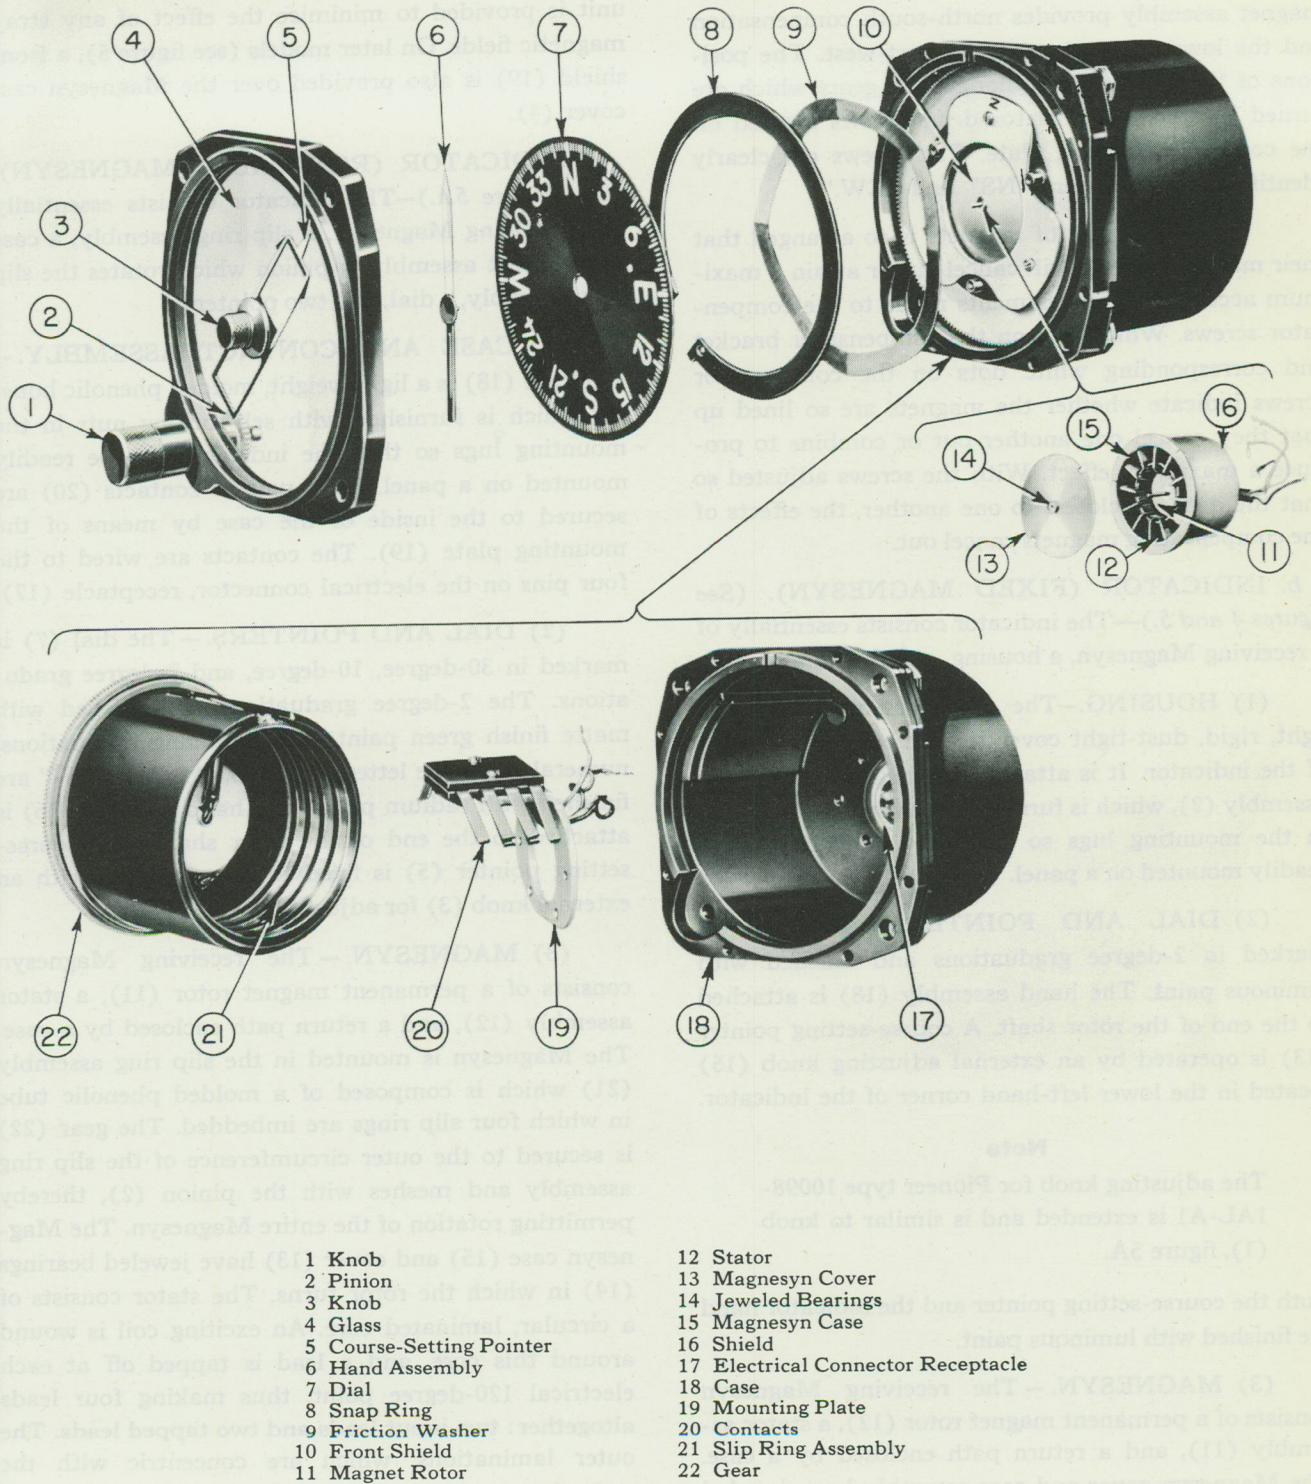

Figure 5A—Three-Quarter Internal View—Indicator—Navy Stock No. R88-I-803
The adjusting knob for Pioneer type 10098-1AL-A1 is extended and is similar to knob (1), figure 5A.
c. INDICATOR (ROTATABLE MAGNESYN). (See Figure 5A.)—The indicator consists essentially of a receiving Magnesyn, a slip ring assembly, a case and contact assembly, a pinion which rotates the slip ring assembly, a dial, and two pointers.
(1) CASE AND CONTACT ASSEMBLY.—The case (18) is a light weight, molded phenolic housing which is furnished with self-locking nuts in the mounting lugs so that the indicator can be readily mounted on a panel. Four pair of contacts (20) are secured to the inside of the case by means of the mounting plate (19). The contacts are wired to the four pins on the electrical connector, receptacle (17).
(2) DIAL AND POINTERS.—The dial (7) is marked in 30-degree, 10-degree, and 2-degree graduations. The 2-degree graduations are finished with matte finish green paint. All remaining graduations, numerals, and the letters "N," "E," "S," and "W" are finished with radium paint. The hand assembly (6) is attached to the end of the rotor shaft. The course-setting pointer (5) is fixed to the glass (4) with an external knob (3) for adjustment.
(3) MAGNESYN.—The receiving Magnesyn consists of a permanent magnet rotor (11), a stator assembly (12), and a return path enclosed by a case. The Magnesyn is mounted in the slip ring assembly (21) which is composed of a molded phenolic tube in which four slip rings are imbedded. The gear (22) is secured to the outer circumference of the slip ring assembly and meshes with the pinion (2), thereby permitting rotation of the entire Magnesyn. The Magnesyn case (15) and cover (13) have jeweled bearings (14) in which the rotor turns. The stator consists of a circular, laminated core. An exciting coil is wound around this core, and a lead is tapped off at each electrical 120-degree point, thus making four leads altogether: two input leads and two tapped leads. The outer laminations, which are concentric with the stator, serve as a return path for the magnetic flux of the rotor magnet. The shield (16) and front shield (10) which are around the Magnesyn unit are provided to minimize the effect of any stray magnetic fields.
(1) The course-setting pointer (13) provides a reference point for holding the airplane on its compass heading. By turning the external adjusting knob (15) located on the lower left-hand side of the indicator bezel, the pointer may be set on any desired course.
(2) Prior to each flight of the ship apply rated power to the remote-reading Magnesyn compass system and set the course-setting pointer on the compass heading determined for the flight.
(3) If a change in the ship's compass heading is made, the reminder, or course-setting pointer, must be reset accordingly.
b. INDICATOR (ROTATABLE MAGNESYN). (See figure 5A.)
(1) The rotatable Magnesyn provides an additional reference for holding the airplane on its course. By turning the external adjusting knob (1), which is located on the lower left-hand side of the indicator bezel, the dial, and Magnesyn, may be rotated to any desired position.
(2) Set the aircraft on the desired heading. When the compass pointer steadies, turn the adjusting knob (1) to rotate the dial (7) until the pointer on its desired heading is at top dead center or exactly on the index. Turn the knob (3) until the course-setting pointer (5) is also at top dead center and directly over the pointer. This arrangement provides a quick, ready reference should the aircraft go off its heading.
(3) The rotatable Magnesyn indicator may also be used in the same manner as the customary fixed Magnesyn with "N" remaining at top dead center. Refer to Section IV, paragraph 2. a.